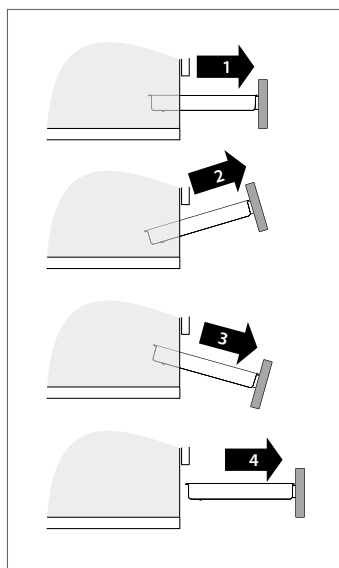

Fig. 18b Removing the drawer
- Remove the drawer (Fig. 18b).